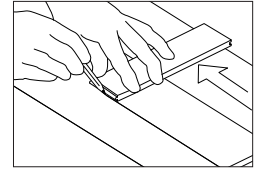

Figure 13
- Sacrificial board: If the wall is not straight, scribe the first board (Figure 13) as necessary to maintain alignment with the chalk line. Install a sacrificial board (with a straight edge) using the appropriate fasteners for the subfloor. If a board is used for the starter row make certain that the groove faces the wall.
- Wedges: Align the first row with the wall using wedges to hold the 1/2" (13 mm) expansion in place and to stabilize the product. If the wall is not straight, scribe the first board (Figure 13) as necessary to maintain alignment with the chalk line.